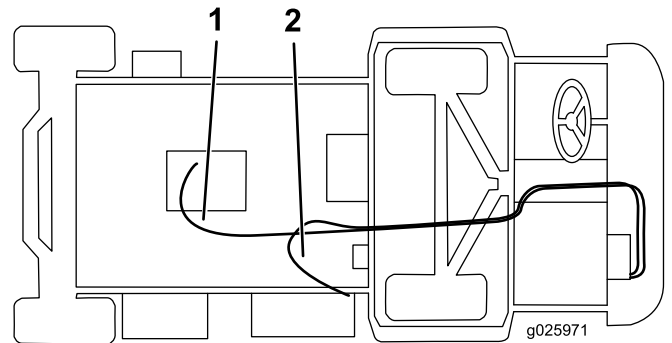

Figure 9
5. Connect the long hose to the heater valve with a hose clamp, and route it under the unit, over the axel, and to the straight fitting (Figure 9).
6. Connect the shorter hose to the white fill tee with a hose clamp, route it through the r-clamp on the heater bracket, and connect it to the tee fitting in the lower radiator hose with a hose clamp (Figure 9).